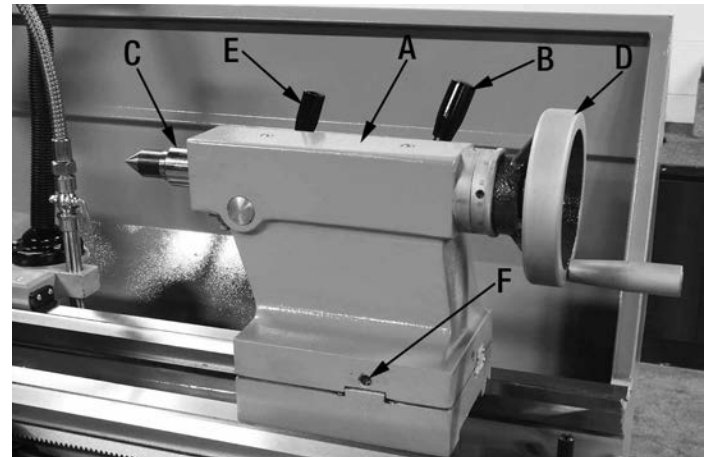

FIGURE 11
The tailstock (A) Fig.11 can be moved freely on the bedway and fastened at any position using the tailstock lock lever (B). The tailstock quill (C) can be moved in and out by using handwheel (D) and then locked in place using quill locking lever (E). Dead centers or drill chucks are normally installed in the tailstock quill.
To make a cross-wise adjustment, unlock tailstock lever (B) Fig.11 and adjust set screws (F) on both sides of the tailstock until the distance at both ends of the ground steel bar are the same.